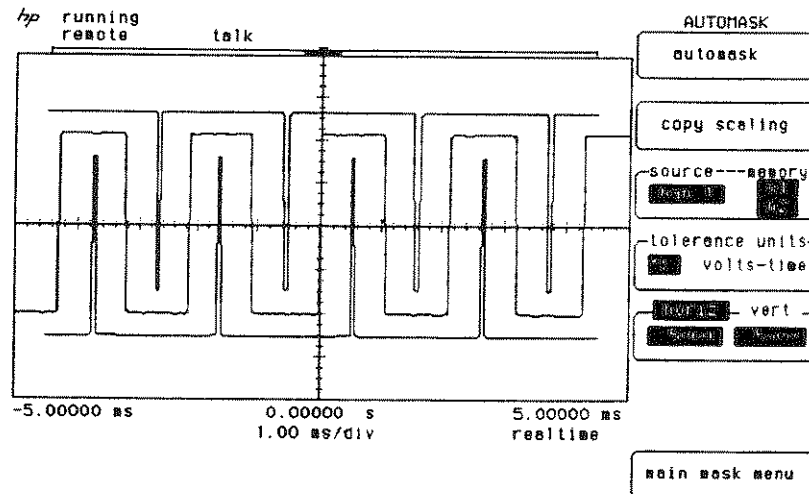

Figure 10-4. Automask Example
- Press automask key. Verify "upper stored in mem 1, lower stored in mem 2" is displayed. The upper limit mask, lower limit mask, and reference waveform are all displayed as in figure 10-4.